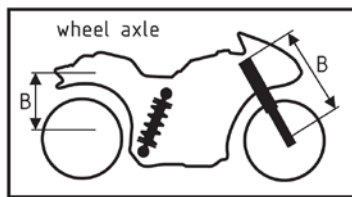

Fig.1
- Measure the distance from the lower edge of the rear mudguard or from a point marked by a piece of tape, immediately above the rear wheel axle, to the wheel axle. (Fig. 1)